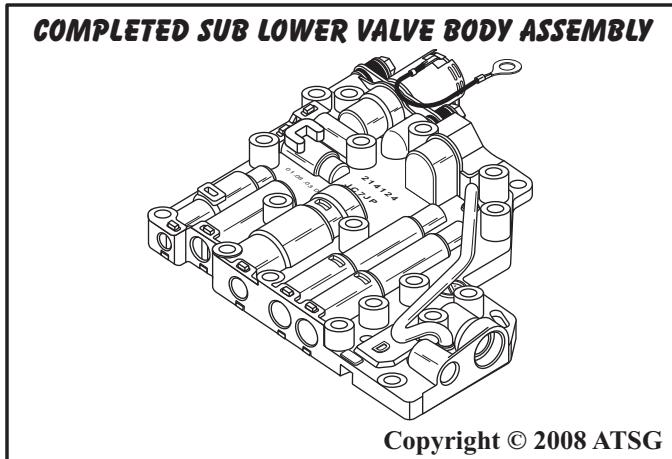

Figure 95
12. Set completed sub lower valve body assembly aside for final valve body assembly, as shown in Figure 95.